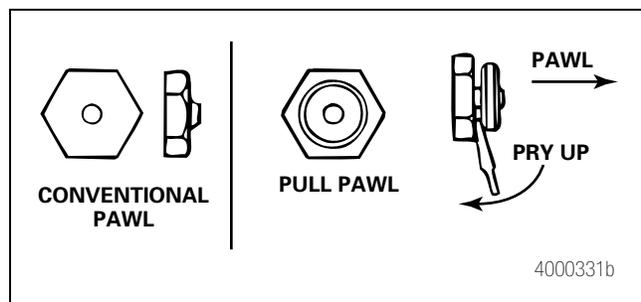

Figure 3.1
- If the slack adjuster has a pull pawl: Use a screwdriver or equivalent tool to pry the pull pawl at least 0.03125-inch (0.8 mm) to disengage the teeth. Figure 3.1.